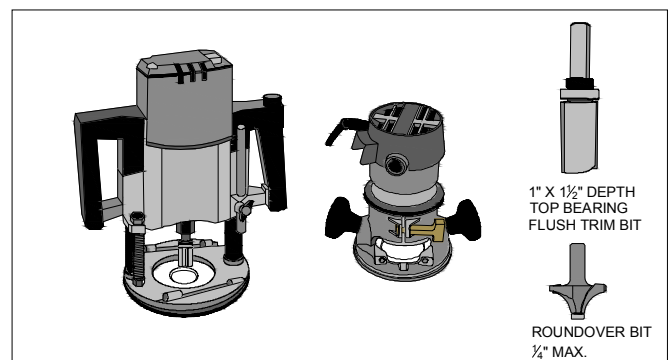

Figure 3C
- Routers (FIG. 3C)
- General Router Bits (FIG. 3C)